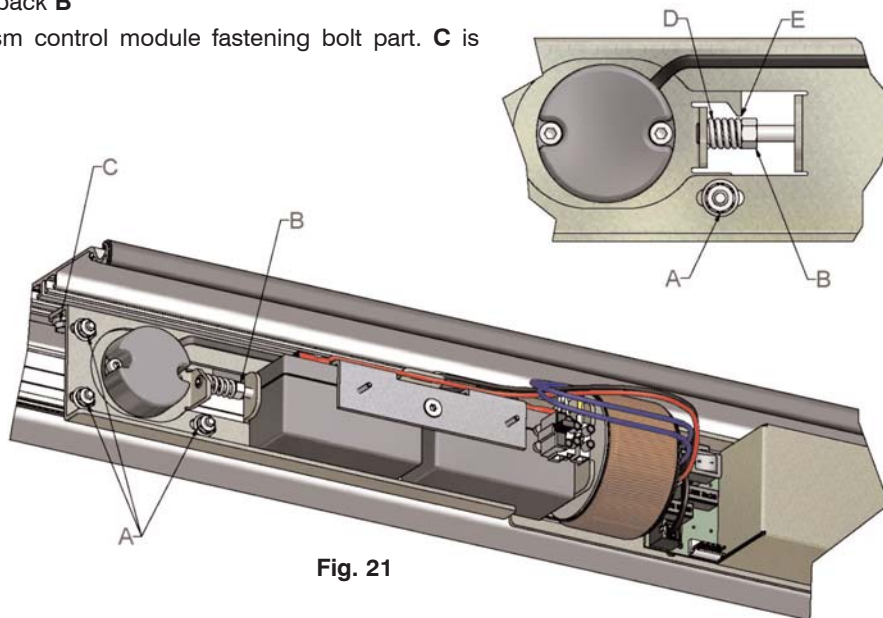

Fig. 21
- Loosen the fastening nuts on the encoder pulley unit **A** (Fig.21)